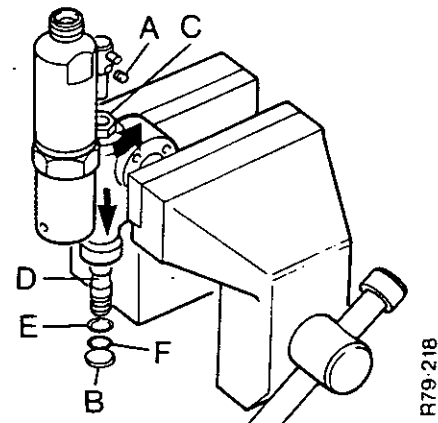

FIGURE 157. DISASSEMBLY OF THE CONTROL VALVE
1. Carefully hold the valve body in a vice as shown in Figure 157. Do not tighten the vice too much.